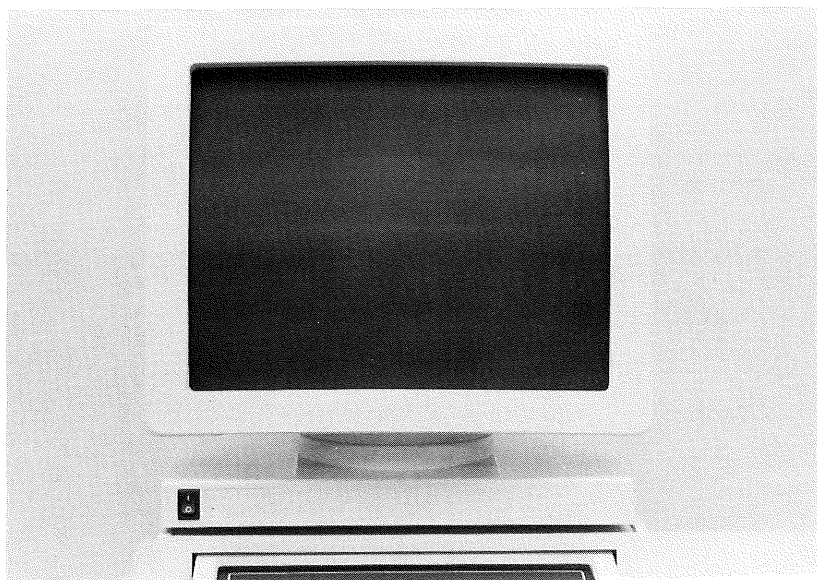

Figure 2.
7. Place the stand for the graphic display on the instrument, so that it is seated firmly around the keyboard. Place the graphic display on the stand. See Figure 2.